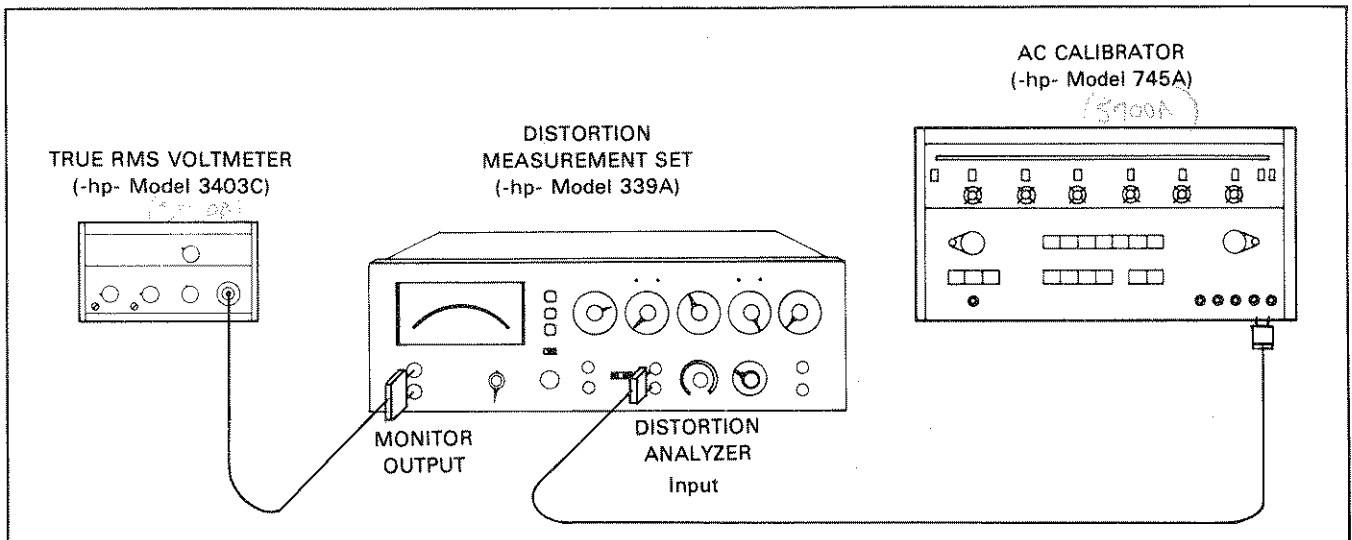

Figure 4-2. Meter Tracking and Monitor Output Accuracy Test.
d. Connect the equipment as shown in Figure 4-2.